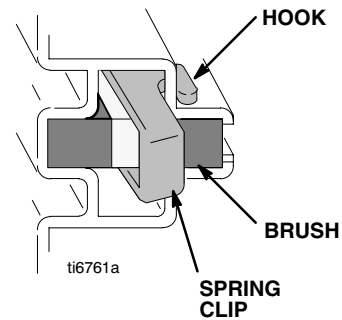

Fig 1
2. Push in spring clip to release its hooks from brush holder. Pull out clip. See Fig 1.